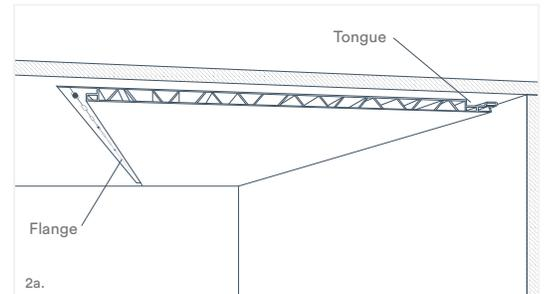

Fig. 7
1. Cut the length of the first panel for the first course. Position the panel so the screw flange is pointing away from the wall (Fig. 7). Ensure the panel is parallel to the outside wall before fastening. Measure on each end and if the measurements are equal, the panel is parallel.